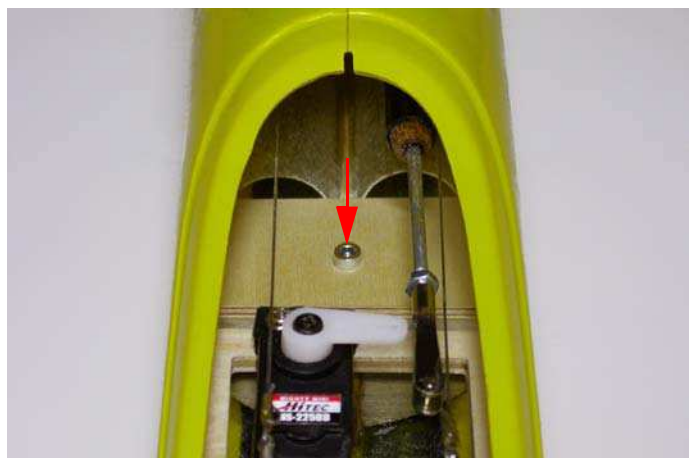

Fig.138: Ballast locking system.
- using an Allen key, completely unscrew the plate locking screw (see figure 138);